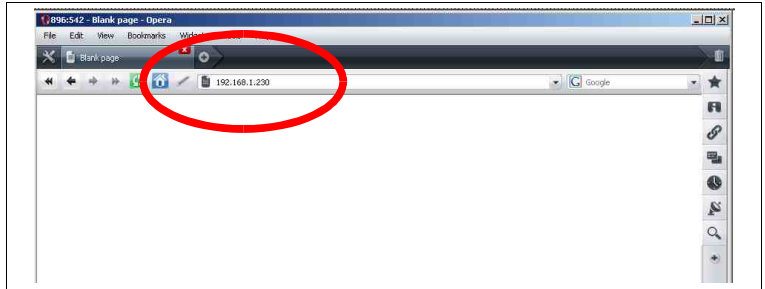

Fig. 19: Insert the FA-07's IP address
5. Launch a Web Browser, such as Explorer, Firefox, Opera or other, on your PC. Type in the IP address "192.168.1.230" in the browser's address bar (See Fig. 19).